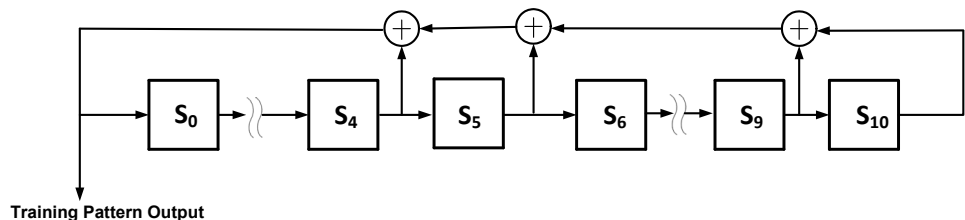

Figure 11 PRBS generator for polynomial n = 0
- A seed value of 0x000 is invalid. An example implementation of the PRBS generator for n = 0 with default settings is given in Figure 11. The first 32 bits of the training pattern for each polynomial is also provided in Table 12.